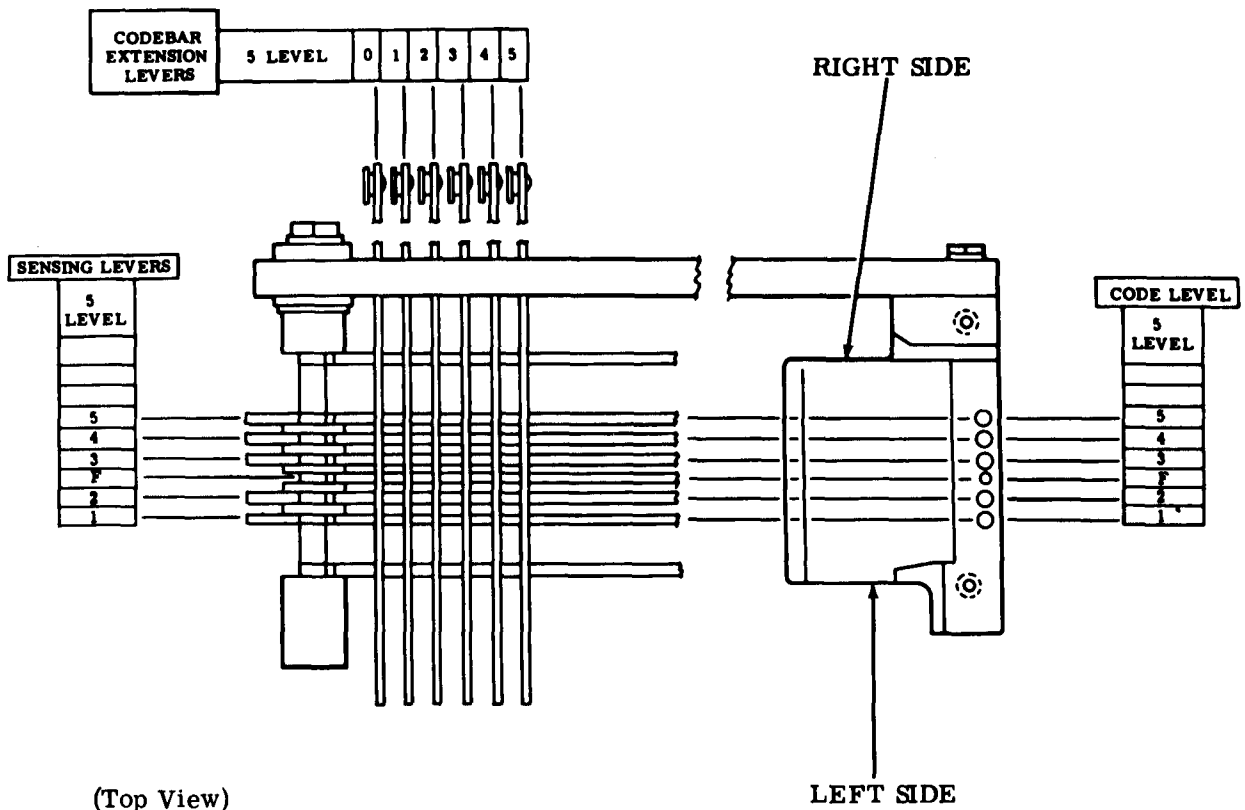

Figure 2 - Tape Punch Code Level Cross Reference Chart
1.15 The relationship between code levels, sensing levers, and codebar extensions is illustrated in Figure 2.
Note: For those 5-level tape punches equipped with an auxiliary TP182186 drive bail, repeat the above procedure with a FIGS D code combination set up in the selector. Omit checking the lever in the no. 3 code level position (Figure 2), since it is not operated.